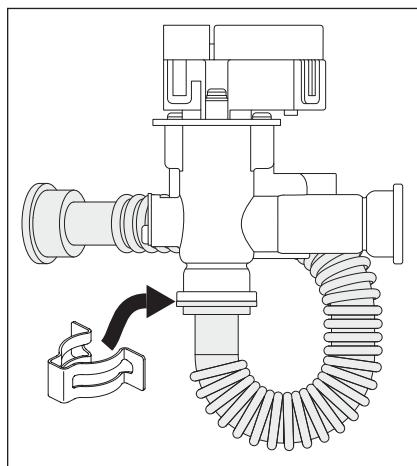

Figure 27 - Installing Flex Hose to Smart Valve
- 17** Remove new Smart Valve from service kit. Install male end of flex hose with small O-ring (14.5mm) to Smart Valve outlet as shown in Figure 27.
- 18** Remove one (1) spring clip from kit. Install spring clip over Smart Valve outlet and flex hose to secure the assembly as shown in Figure 27.
- 20** Carefully install Smart Valve inlet to cold t-nipple. Remove one (1) spring clip from kit. Install spring clip over Smart Valve inlet and cold t-nipple to secure Smart Valve.